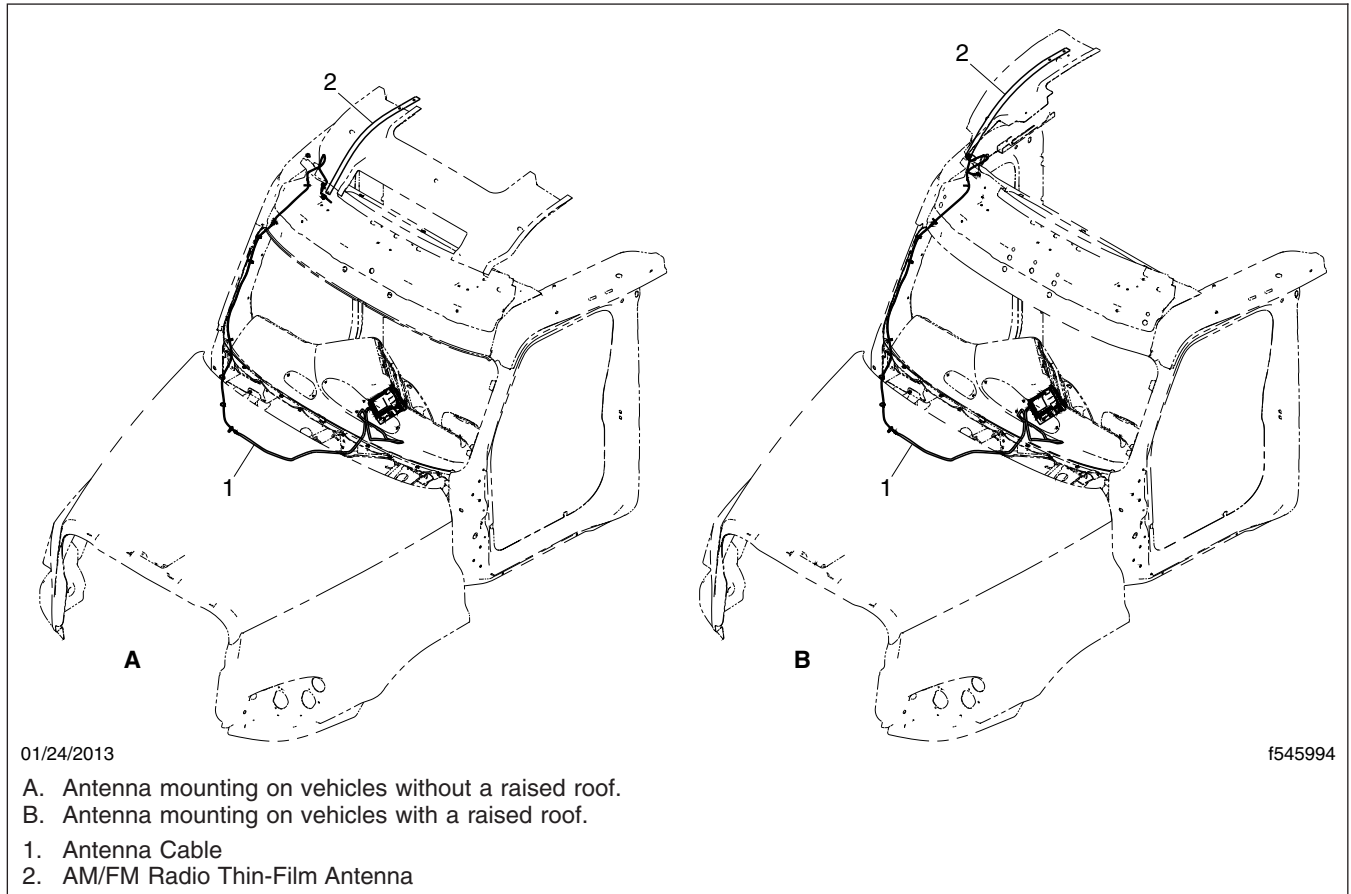

Fig. 7, Thin-Film Antenna, Vehicles with an AM/FM Radio
- See Fig. 7 for vehicles with AM/FM radio antennas.